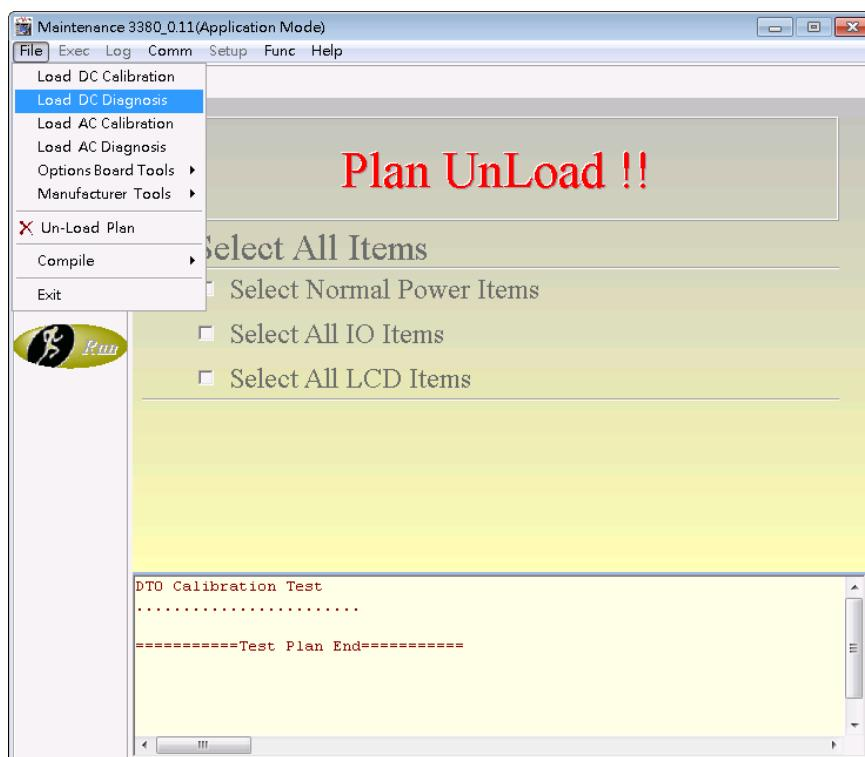
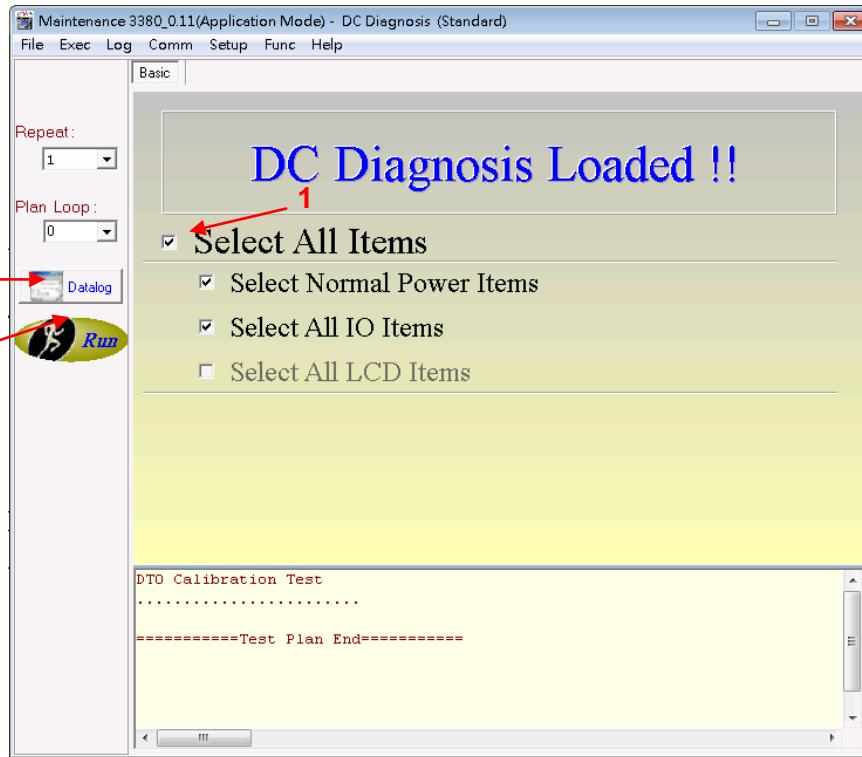

Figure 3-26 DC Diagnosis Window
Figure 3-27 DC Diagnosis Window
- (1) Click “Load DC Diagnosis” on Maintenance window to prompt the diagnostic user interface (see *Figure 3-26* and *Figure 3-27*).